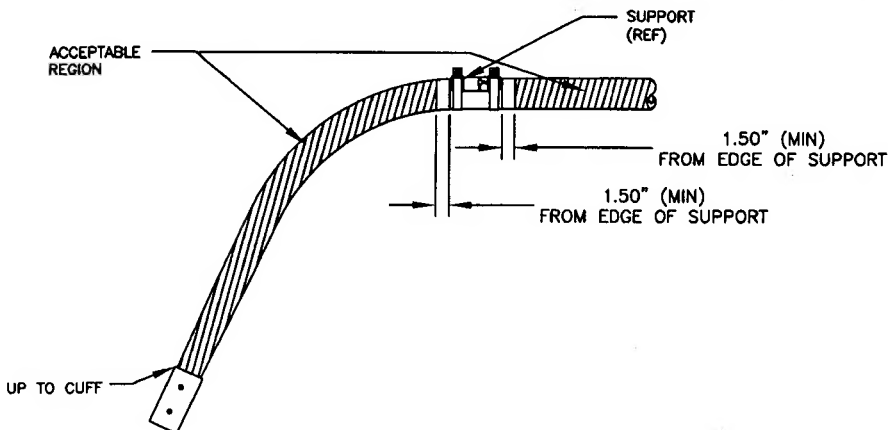

FIGURE 1 - ACCEPTABLE REGIONS TO BE COATED WITH ARMOR SHIELD
To designate crosstubes with 'Armor Shield' add 'A' to the Part Number. For example, D206-667-101A is a D206-667-101 crosstube coated with Armor Shield. It is acceptable to apply the Armor Shield in regions shown in Figure 1 only. It is **NOT** acceptable to apply Armor Shield in the cuff and support/clamp regions.
- 2) Mask areas around supports and cuffs per Figure 1. Abrade paint finish in areas requiring protection using 320 grit sandpaper.